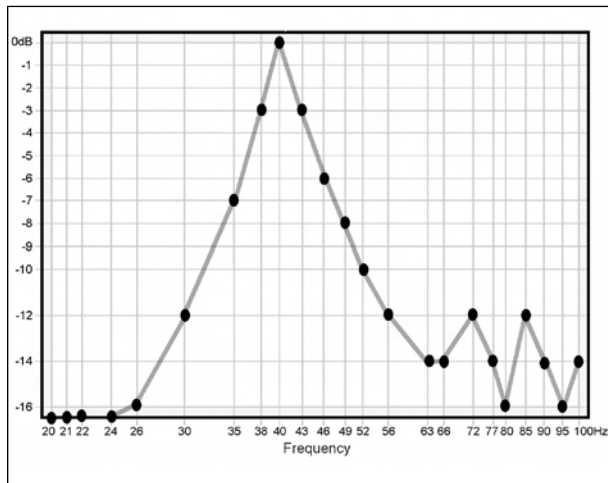

Figure 18. Narrow Response
1. Select a new test position: Cue the test track corresponding to the center frequency of the dip. In the first example in Figure 18, you would play Track 13 (56Hz). Press **Play ▶**. You will see a reading very close to what you had before. Now, slowly move the RSLM around the area, if possible remaining within about a foot of the original test point. As you move the RSLM, watch the bar graph. You will observe large level fluctuations. Find a position that restores the level to approximately that of the adjacent test points. You may find it helpful to move the RSLM vertically. Dips can be oriented in any axis. The position that restores the level to about that of the adjacent test points is your new test position.